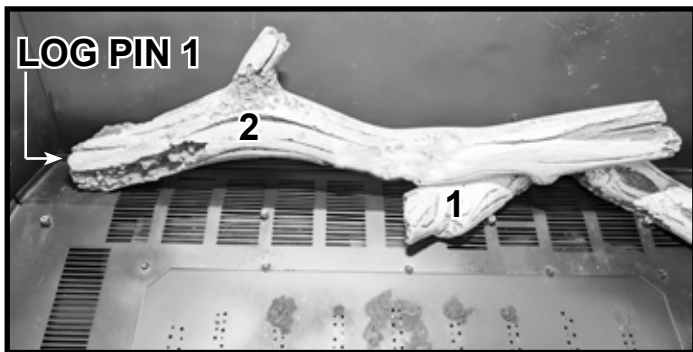
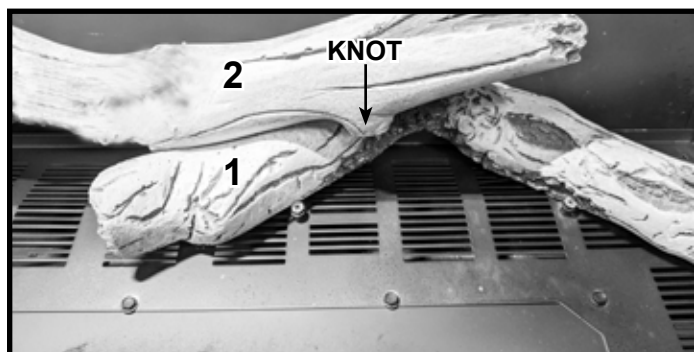

Figure 6 Place Log #2
Figure 7 Knot on Log #2
**Log #2:** Place the knot on the right end of Log #2 the left end of Log #1 as shown in Figure 7. Log Pin 1 touches the left end of Log 2. See Figure 6.